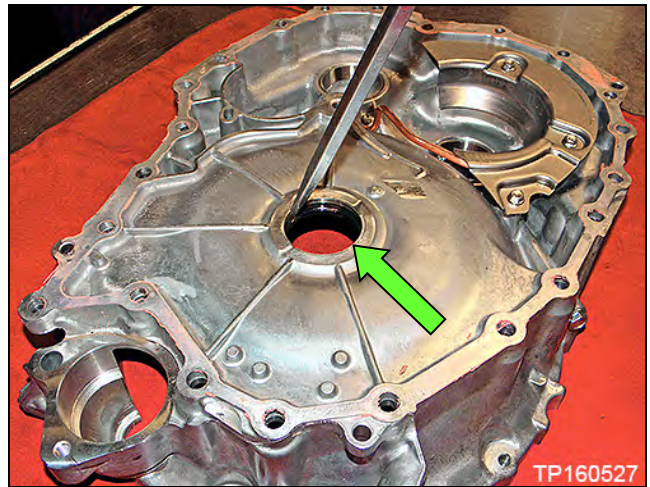

Figure 9C
- b. Torque converter seal (Figure 9C).